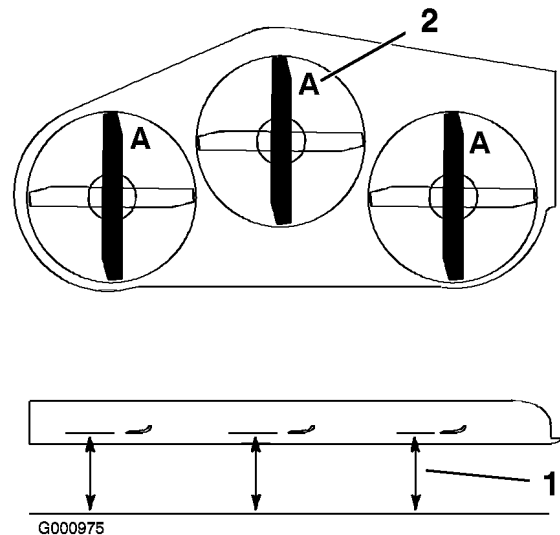

Figure 77
3. Rotate the blades until the ends face forward and backward (Figure 77). Measure from a level surface to the cutting edge, position A, of the blades (Figure 77). Note this dimension.